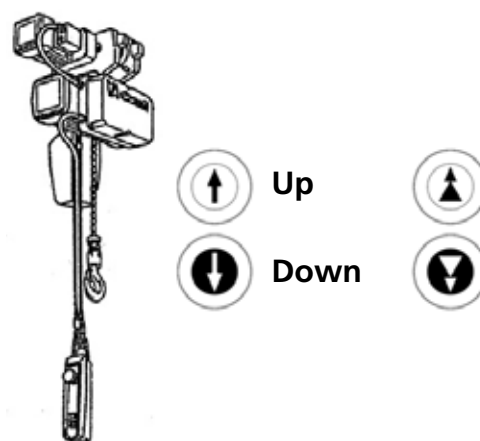

fig.47
- ▶ Proceed with the same checks for the "up/down" control of the hoist, taking care to operate it first in one direction (down) and then in the other (up) with two short pulses, which are only necessary to ascertain the correct direction of rotation (fig. 47).